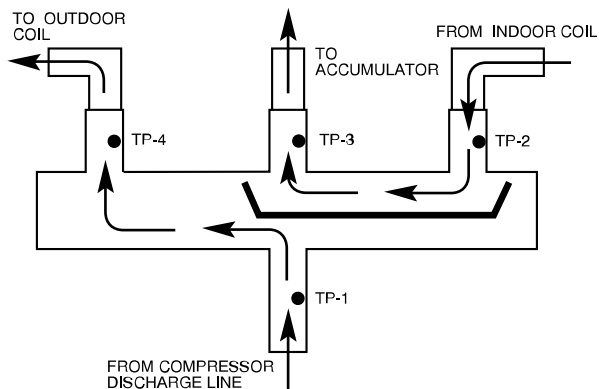
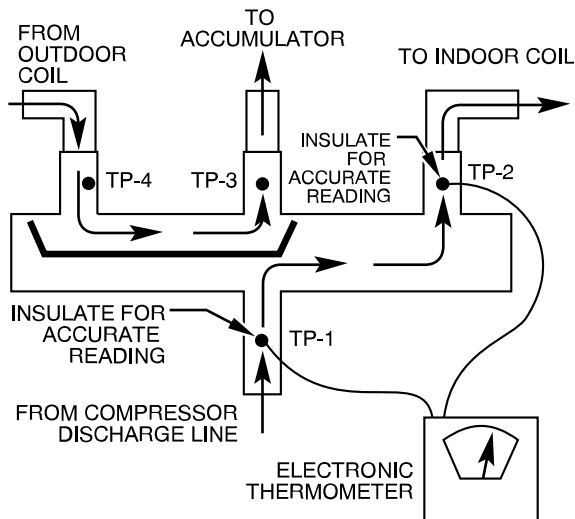

Fig. 12 – Reversing Valve (Cooling Mode or Defrost Mode, Solenoid Energized) ^{A10189}
Fig. 13 – Reversing Valve (Heating Mode, Solenoid De-Energized) ^{A10188}
Using a remote measuring device, check inlet and outlet line temperatures. DO NOT touch lines. If reversing valve is operating normally, inlet and outlet temperatures on appropriate lines should be close to each other. Any difference would be due to heat loss or gain across valve body. Temperatures are best checked with a remote reading electronic-type thermometer with multiple probes. Route thermocouple leads to inside of coil area through service valve mounting plate area underneath coil. Fig. 12 and Fig. 13 show test points (TP) on reversing valve for recording temperatures. Insulate points for more accurate reading.